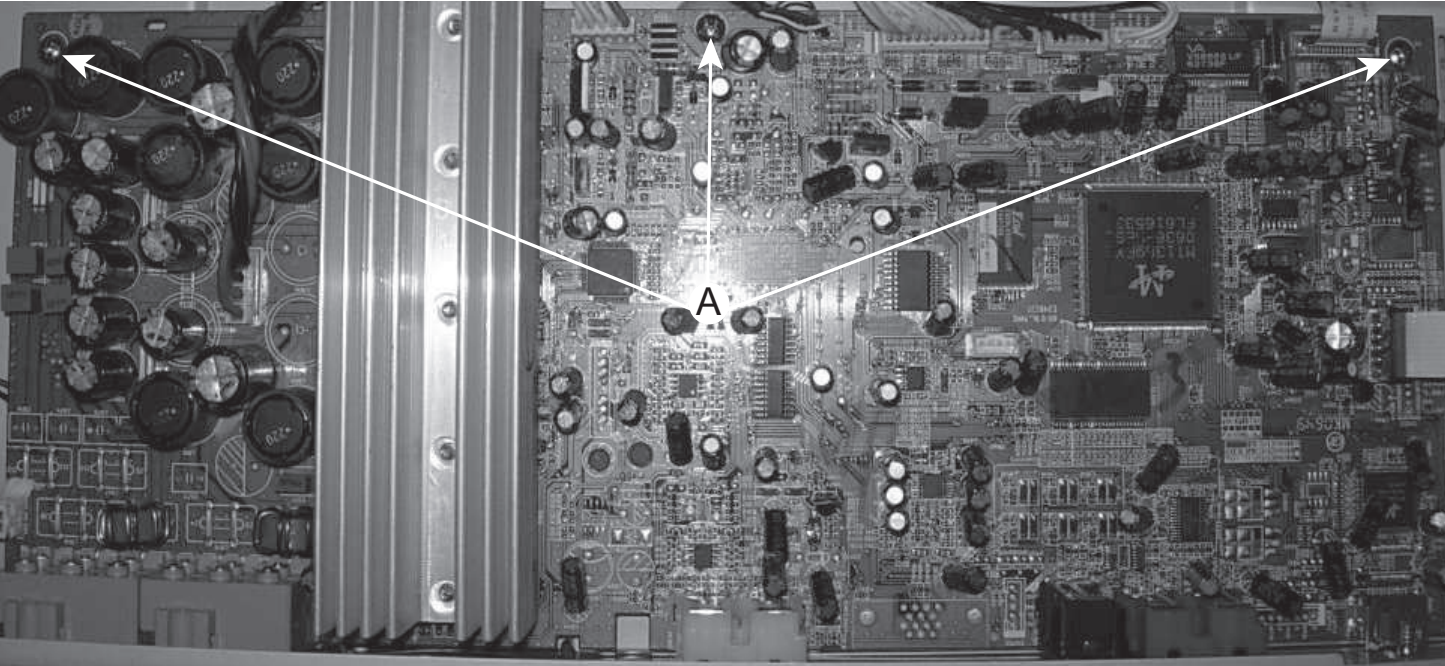

Figure 4
- 2) Loosen 3 screws “ A “ on the top of main board as shown in figure 4.